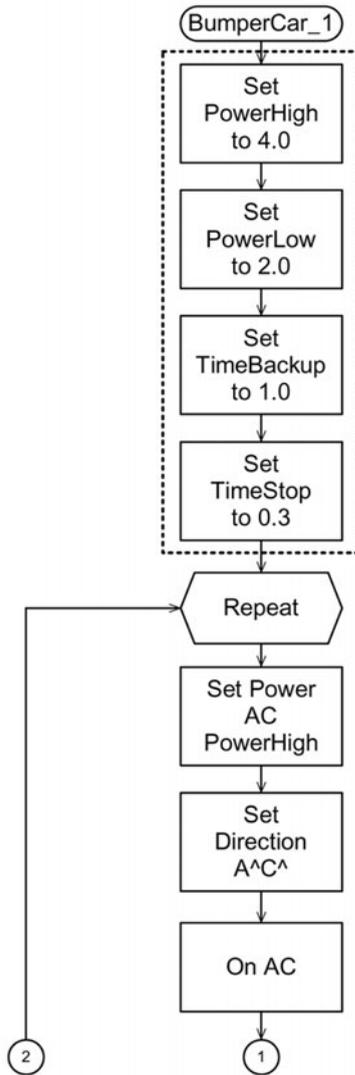

Fig. 13-5. BumperCar program 1 (part 1).
**Try This:** One of the simplest feedback-based programs is the basic bumper-car program. This program assumes your differential-drive robot has two bumpers on it, sensors 1 and 2. This version of the program drives forward until it hits something. Once it has hit an obstacle, it backs up and turns away from it and then resumes driving forward. The first part of the program is shown in Fig. 13-5.